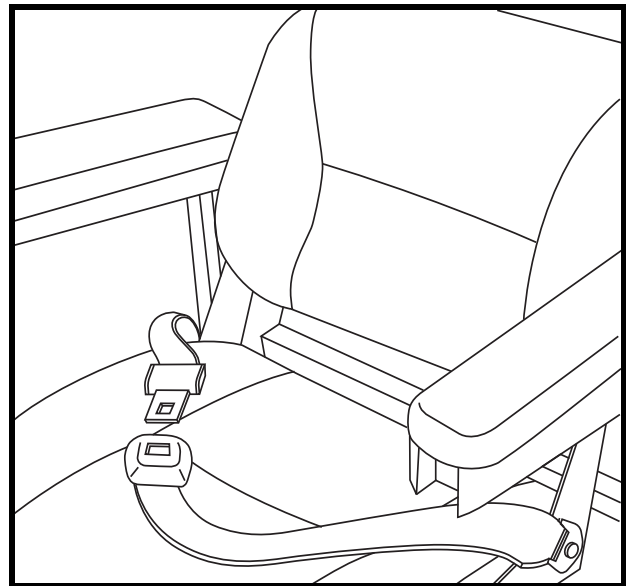

Figure 20. Positioning Belt
1. Insert the metal tab on the right side of the belt into the plastic housing on the opposite strap until you hear a “click.” **See figure 20.**